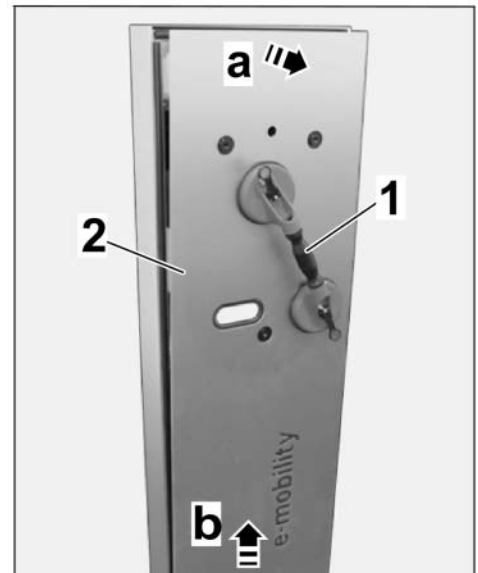

Figure 12
- 2.3.2 Pull the suction cup to open a gap ⇒ *Figure 12-a-* on the front.
- 2.3.4 Lift the front by approx. 2 to 3 cm ⇒ *Figure 12-b-* until the guides come out of the mounts (cheese head bolts).